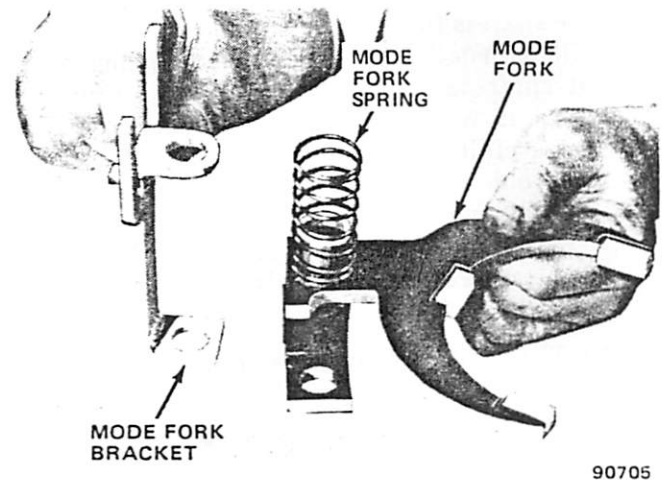

Fig. 2D-66 Assembling Mode Fork, Spring and Bracket
(24) Install side gear clutch on mainshaft with clutch gear teeth facing downward (fig. 2D-54). Be sure gear teeth mesh with clutch sleeve.
(25) Install remaining short mainshaft needle bearing spacer. Install spacer carefully to avoid displacing previously installed bearings.
(26) Install front output shaft front thrust bearing assembly in front case. Correct installation sequence is thick race-thrust bearing-thin race.
(27) Install front output shaft in front case (fig. 2D-55).